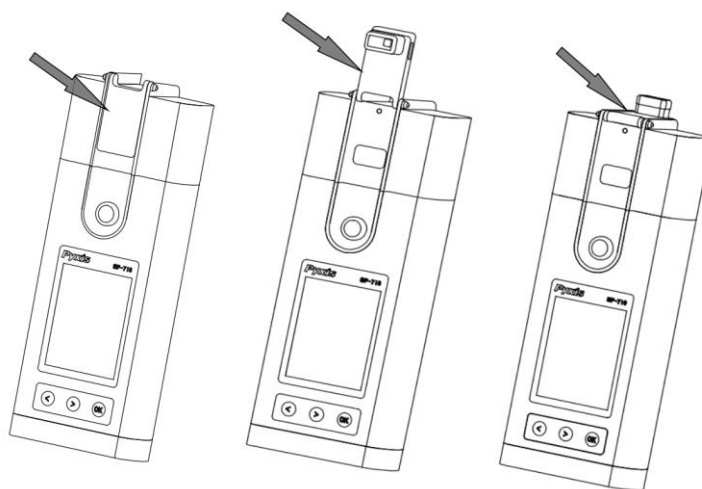
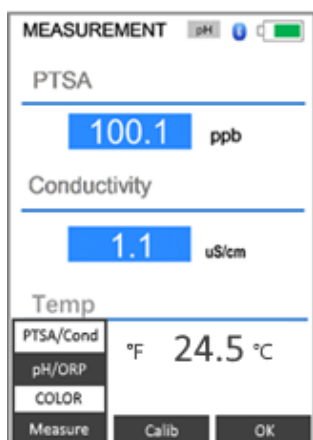

Figure 6. Turn on pH/ORP module with the seal
Figure 7. Select pH/ORP measurement
3. Press **Measure** (the < key). A selection menu will be shown as in Figure 6. Press **Measure** again to highlight **pH/ORP**. Press **OK** to start pH and ORP measurement. The pH and ORP values will be updated every two seconds. The values will be displayed in white with a blue background if a stable value is reached (Figure 7).
If step 3 is carried out to launch pH/ORP measurement from the main module without turning on the pH/ORP module first (i.e., skipping step 1), an instruction message will be promoted on the screen showing how to turn on the pH/ORP module (Figure 7). In this case, please turn on the pH/ORP module by lowering the seal according to the message shown.